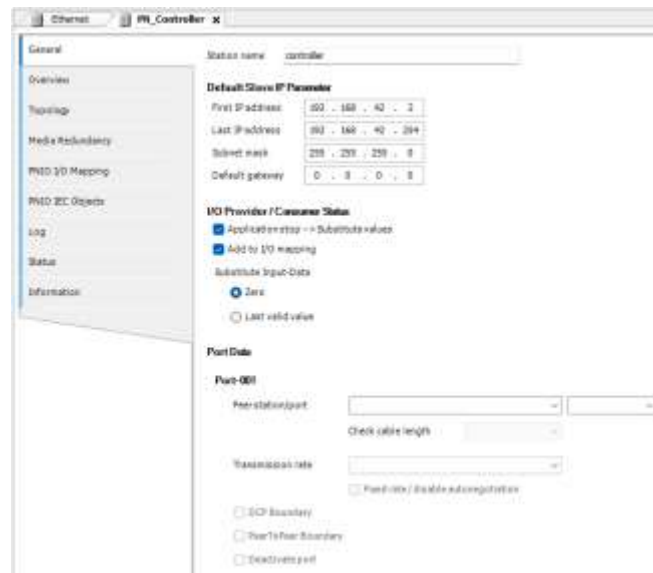

Figure 35. General Configuration PROFINET Controller
- c. Set the adapter parameters as shown in Figure 35.